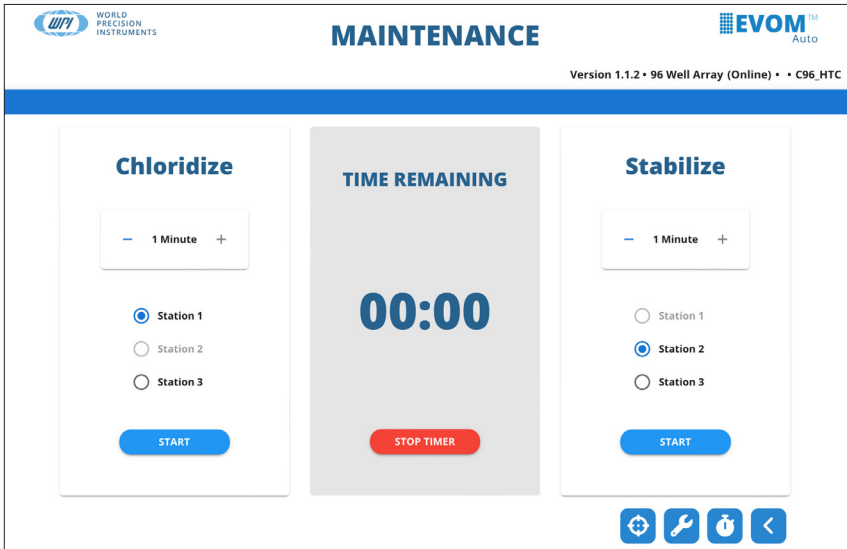

Fig. 66—The Maintenance window.
1. Select *Maintenance* on the main menu. The *Maintenance* window appears (Fig. 66).